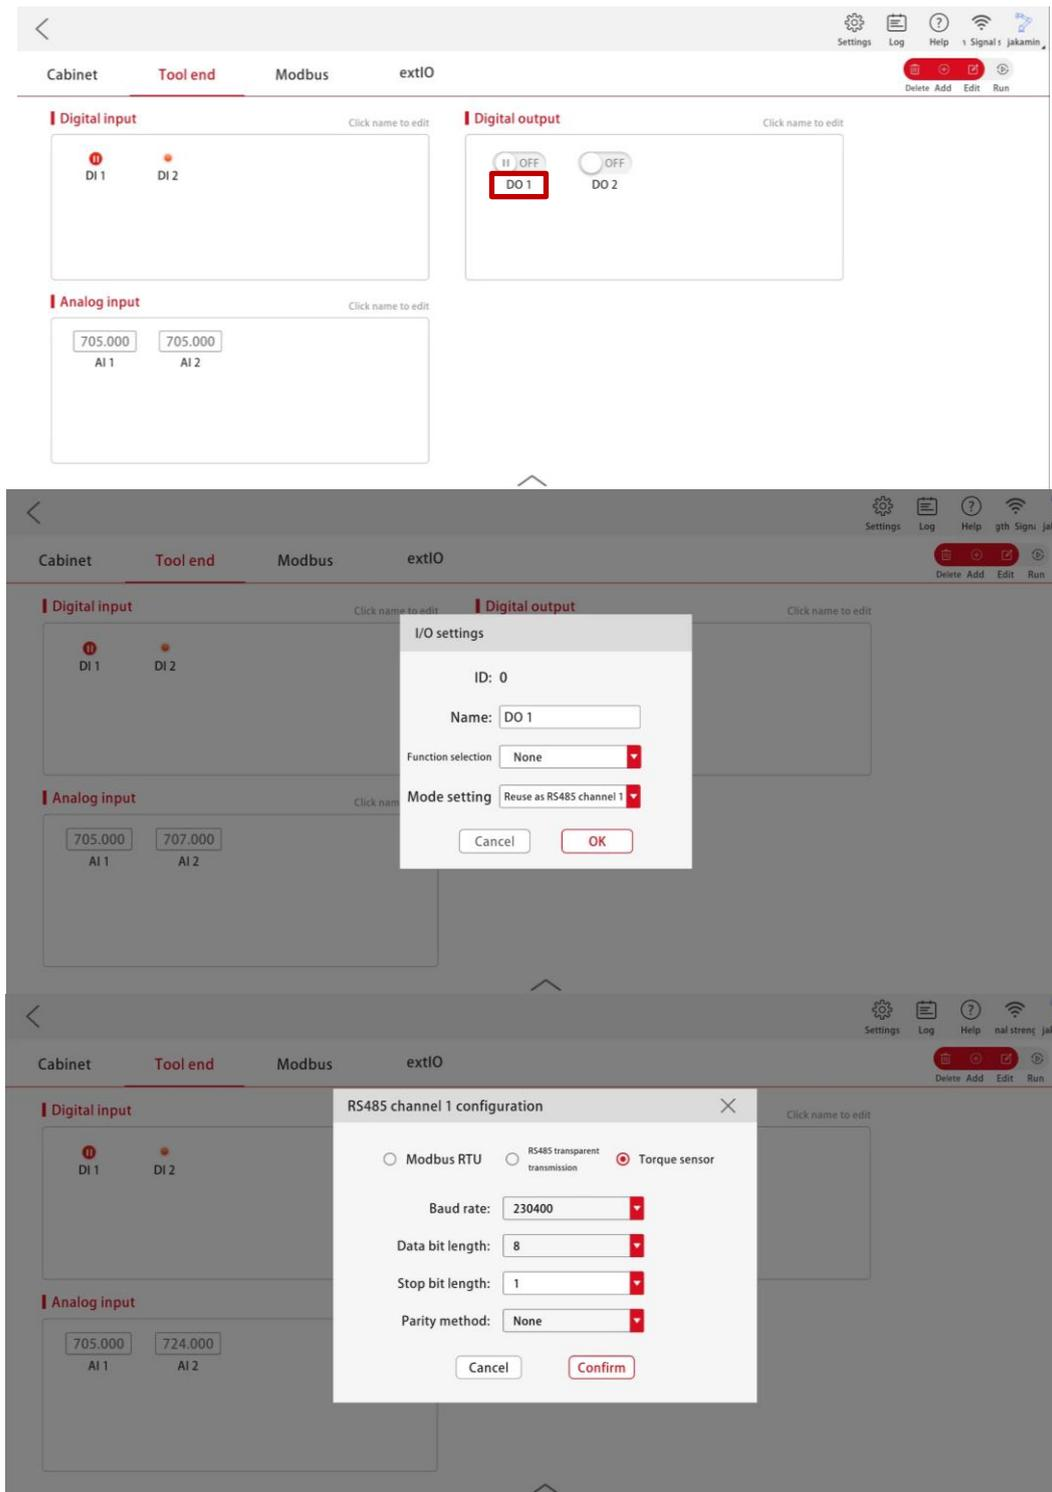

Figure 3-6 RS485 Channel Configuration Interface
- d. As shown in Figure 3-6, tap [I/O panel] → [Tool end], and tap "DO1" in the [Digital output] sub-window. (Note: tap "DO1" instead of the toggle switch above it). Then the "I/O settings" window will pop up. Select "Reuse as RS485 channel 1" in the drop-down box of the [Mode setting] bar, tap [Confirm] to exit, and [RS485 configuration] will be displayed on the right of the title of the [Digital output] sub-window;
- e. Tap [RS485 configuration], and the configuration interface of the RS485 channel will pop up, including communication parameters and function/mode configuration. As shown in Figure 3-6, select [Torque sensor], and set the baud rate to 230400, the data bit length to 8, the stop bit length to 1, and the parity method to be none. After that, tap [Confirm], and the communication configuration between TIO and external torque sensor is completed;